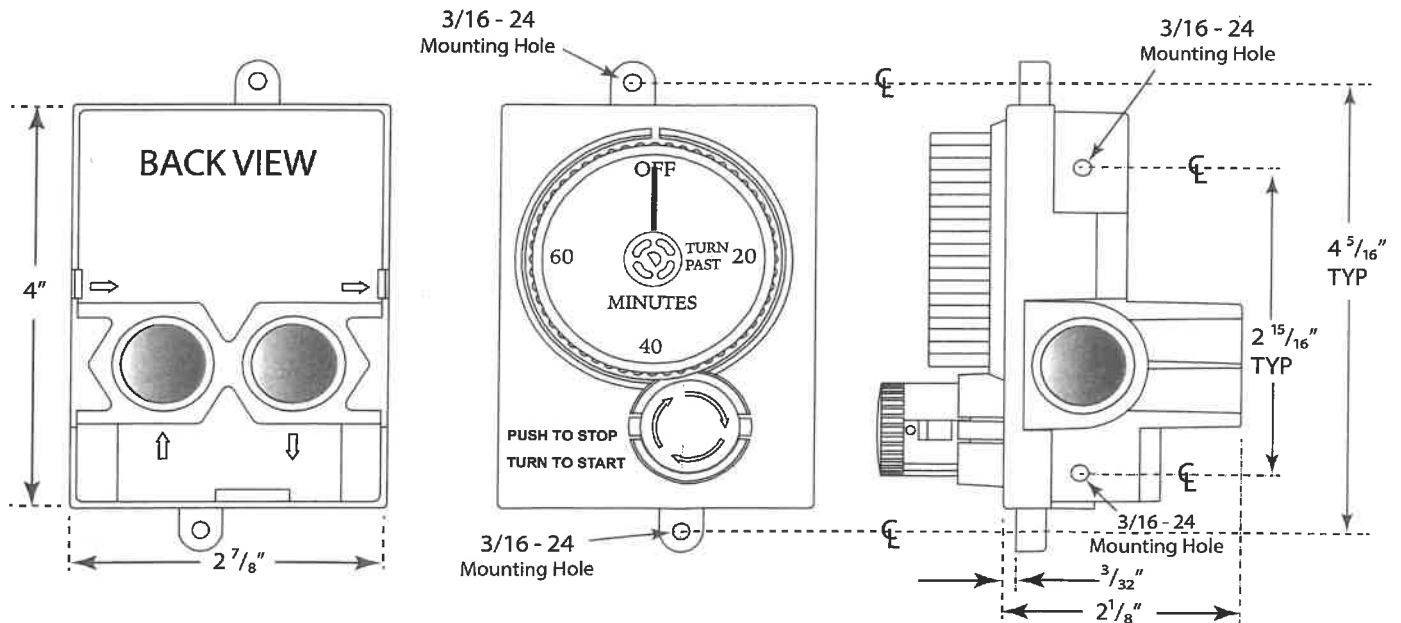

Fig. 1 E-STOP Gas Timer mounting hole locations applicable to both models.
The E-STOP Gas Timer has the ability to be mounted from the side of the body, using the four (4) provided holes (two mounting holes per side) or using the two mounting hole tabs at the top and bottom of the body when facing forward. Each mounting hole uses 3/16 - 24 machine screws to secure it into position. **Note:** We recommend using stainless steel screws for any outdoor applications. See Fig. 1 for details.